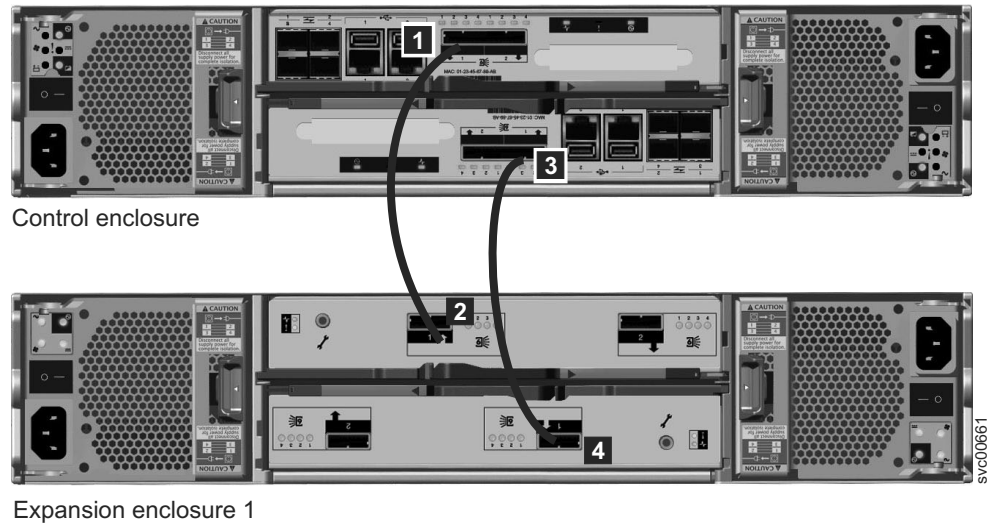

Figure 31. Attaching an expansion enclosure to the control enclosure
- Attach the SAS cables from the control enclosure to the first expansion enclosure as shown in Figure 31 on page 27. Remove the protective end covers, if necessary. The first expansion enclosure is below the control enclosure.